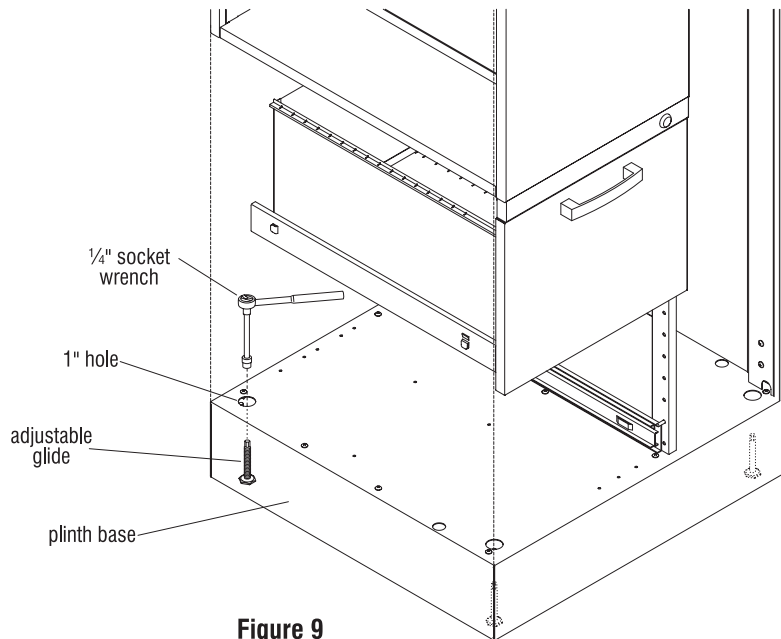

Figure 9
1. To gain access to the adjustable glides, remove the bottom drawer or open the wardrobe door if so equipped (Figure 9).
2. Locate the four 1" diameter holes inside the cabinet, at the four corners of the base. Using a socket wrench with an extension and $\frac{1}{4}$ " socket, level the cabinet as needed (Figure 9).